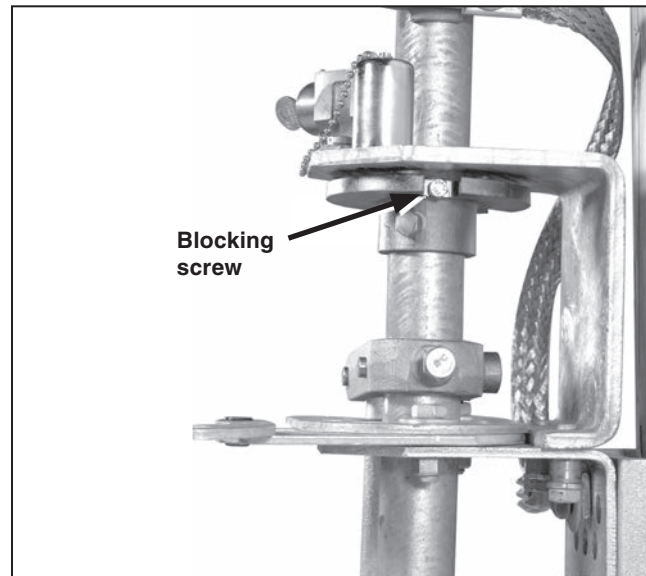

Figure 27. Blocking slot in interlock disc.
STEP 24. Block one of the two slots in the locking disc with the blocking screw provided. (The slot to be blocked depends on whether a locked-open or locked-closed arrangement is required.) See Figure 27.